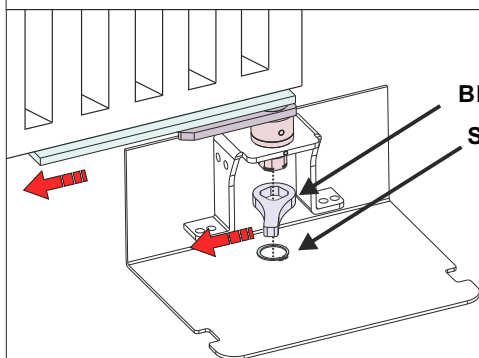
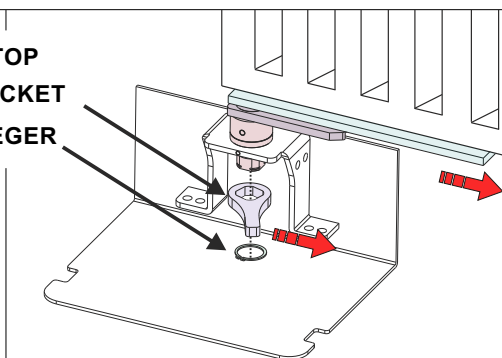

Fig. 37
Fig. 38
9.1. Insert the stop bracket into the box shaft, ***making sure it is oriented in the same direction of the leaf support bracket***, then lock it with the seeger (Fig. 37 and Fig. 38)